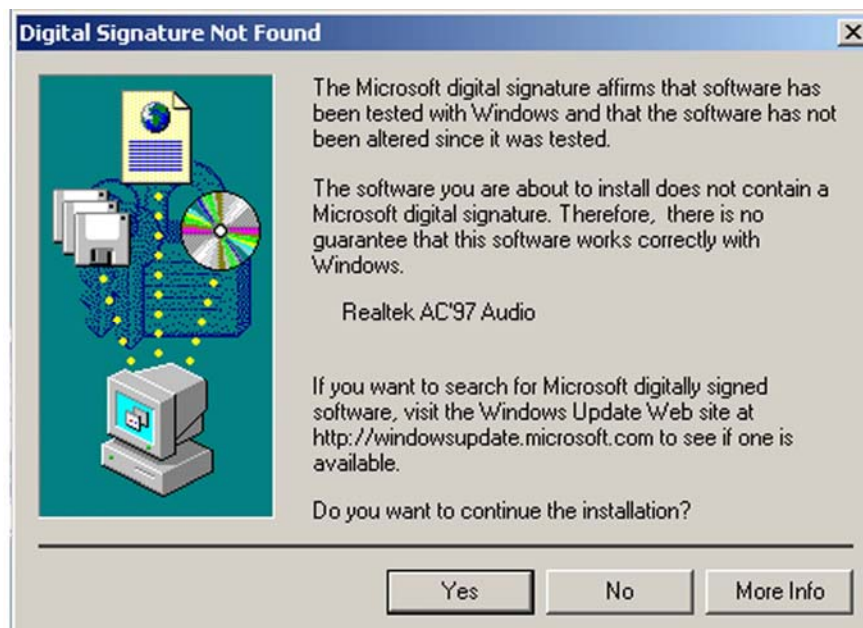
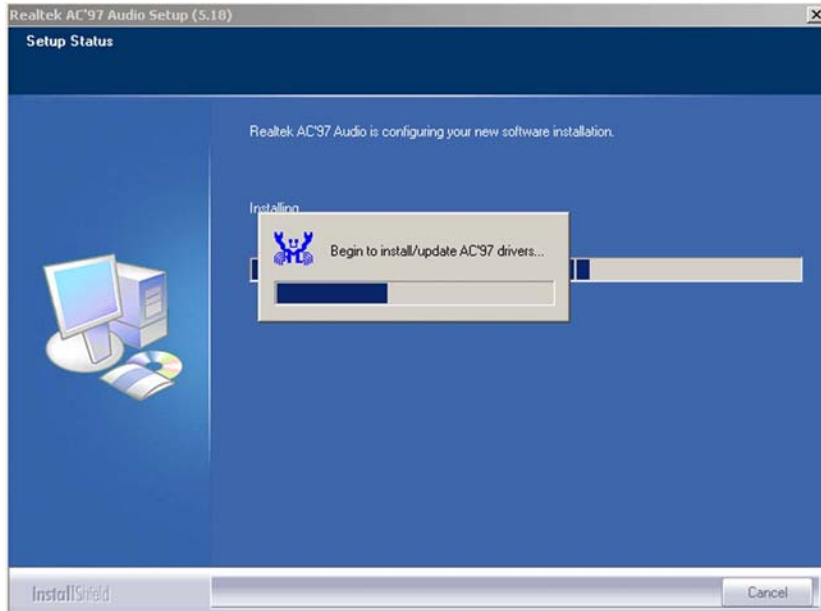

Figure 6-24: AC'97 Audio Driver Digital Signal
Figure 6-25: AC`97 Audio Driver Installation Begins
Step 7: At this stage the “Digital Signal Not Found” screen appears (Figure 6-24). To continue the installation process, click the “YES” button.
Step 8: After clicking the “YES” button in Figure 6-24, the installation of the driver begins (Figure 6-25).